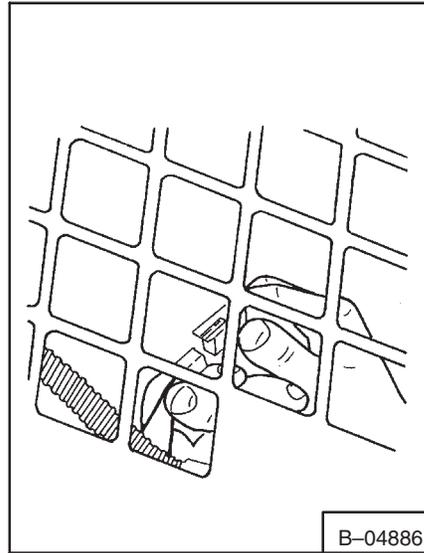

Fig. 5-49 Disconnecting Sender Wire
3. Disconnect the wire from the connector in the operator guard (Fig. 5-49).